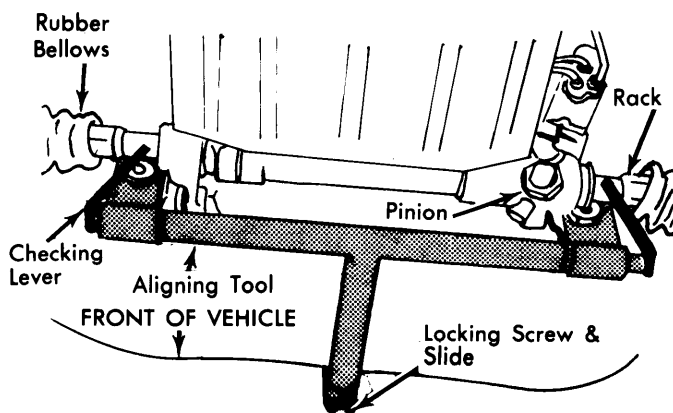

Fig. 4 Installing Rack and Pinion Gear
2) Check that pinion shaft has entered universal joint and insert mounting bolts, but do not fully tighten self-locking nuts. Detach inner end of rubber bellows and push back from housing. Locate two attachment brackets of suitable service tool (JD. 36) on two large hex head bolts of lower control arms (See Fig. 4).